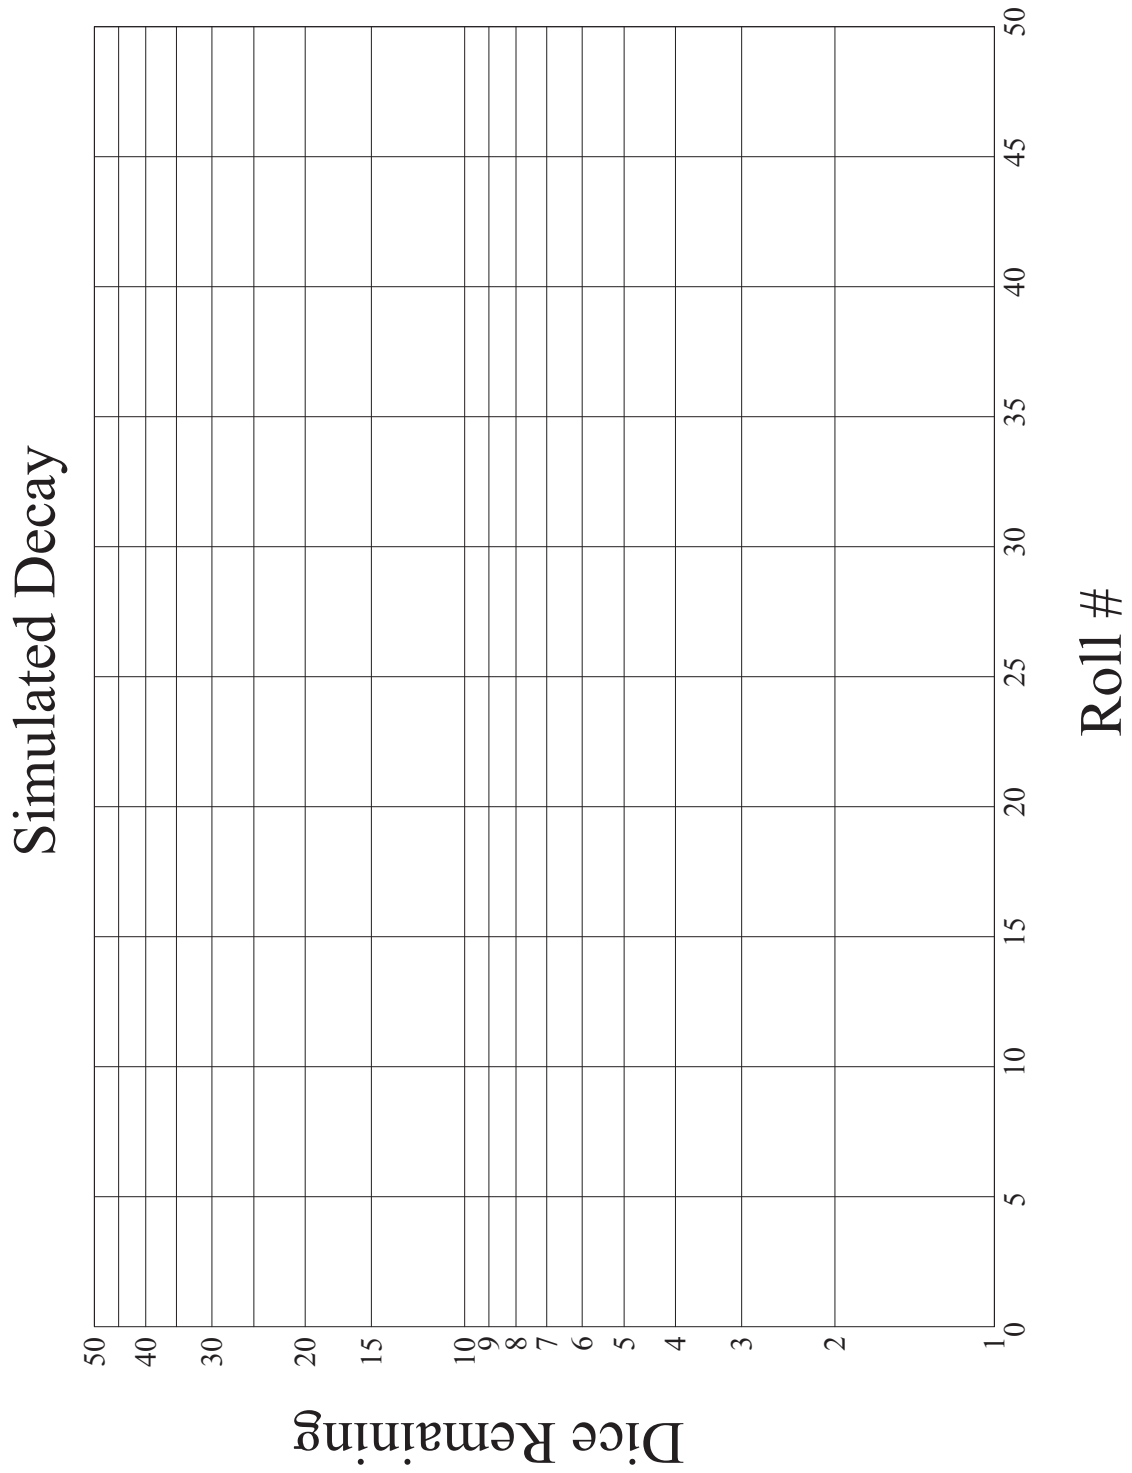

Figure 7.1: Sample semi-log paper for a simulated decay using dice.
2. In your notes, construct a graph of  $D$  vs.  $R$  plotting the remaining dice  $D$  for every 5th roll  $R$ . Semi-log graph paper like the sample shown in Figure 7.1 will be provided.